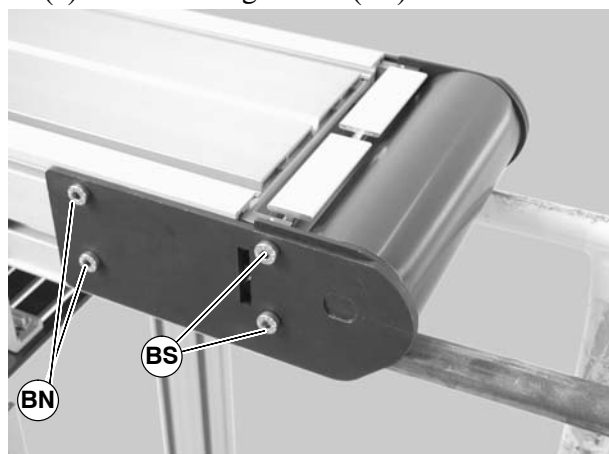

Figure 48
2. On one side of conveyor, loosen the two (2) back fastening screws (BN of Figure 48) and remove two (2) front fastening screws (BS).